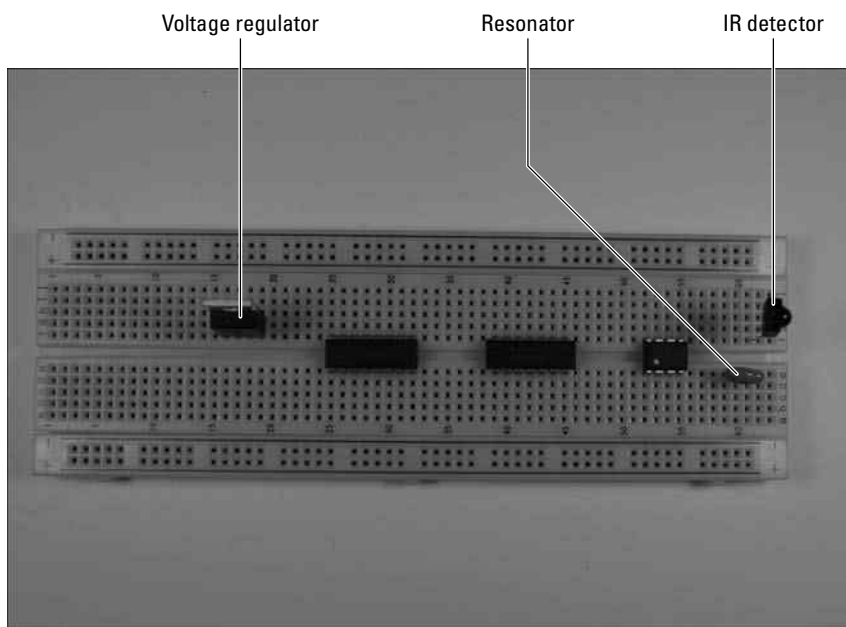

Figure 11-24:
2. Insert the voltage regulator, resonator, and IR detector on the breadboard, as shown in Figure 11-24.